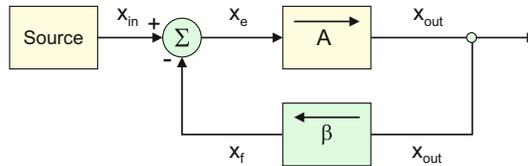
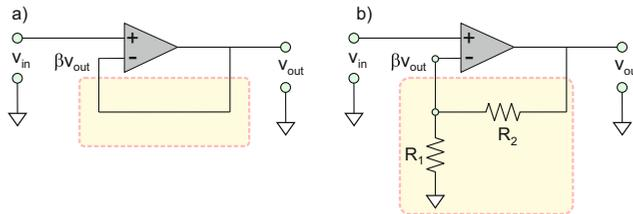

Fig. 5.36. A negative feedback loop for an arbitrary system (signal-flow diagram).
Fig. 5.37. Two amplifier circuits with negative feedback networks indicated by a shaded rectangle.
Although the negative feedback was first quantified by electrical engineers, it is extensively observed, studied, and employed in many mechanical, biomedical, chemical, and other systems. Figure 5.36 shows a generic structure of a *linear feedback system*.
Figure 5.36 is a simplified *signal-flow diagram* or *controls block diagram*. The variable  $x$  is a *signal*; it may be voltage, current (electrical engineering) or displacement, velocity (mechanical engineering), etc. These three blocks have special names in control theory:
Clearly, the feedback loop reduces the initial gain substantially. And yet, despite this drawback, the closed-loop gain  $A_{\text{CL}}$  may still be large enough and sufficient for amplification as long as  $A$  is made very large. Thus, the feedback loop in Fig. 5.36 is a simple and powerful means to control the operation of an arbitrary high-gain system.
**Exercise 5.9:** The open-loop gain  $A$  in Fig. 5.36 varies between two extreme values of  $A = 1000 \pm 200$  ( $\pm 20\%$  gain variation) depending on the system parameters. The forward gain block is used in the closed-loop configuration with the feedback factor  $\beta$  of 0.1. Approximate the two extreme values of the closed-loop gain,  $A_{\text{CL}}$ .
The second question of interest is finding the *error signal*,  $x_e$ , in Fig. 5.36, which corresponds to the differential input voltage for an amplifier circuit with the negative feedback. Substitution of Eq. (5.62) into Eq. (5.60) yields
**Exercise 5.10:** The open-loop gain  $A$  in Fig. 5.36 is 10,000. The forward gain block is used in the closed-loop configuration with the feedback factor  $\beta$  of 0.1. Determine the error signal  $x_e$  if the input voltage signal is 1 mV.
Two circuits shown in Fig. 5.37 are the buffer amplifier circuit and the non-inverting amplifier circuit, respectively. The goal is to find the closed-loop gain  $A_{CL}$  of the amplifier circuit when the given open-circuit voltage gain  $A$  is large but finite. In this case, the second summing-point constraint cannot be applied. Therefore, simple Eqs. (5.16) and (5.21) obtained previously need to be modified.
Both circuits from Fig. 5.37 have the form of the feedback system as in Fig. 5.36. The feedback network is indicated by a shaded rectangle. The signal  $x$  is now the voltage. Since  $A$  is given, the only problem is to find the feedback factor,  $\beta$ . For the buffer amplifier, the feedback factor is clearly one. For the non-inverting amplifier circuit, the feedback loop is the voltage divider, where  $\beta$  is determined by the resistance ratio. Note that the voltage divider model implies no current into amplifier's input terminals. Specifically,  $\beta v_{out}$  is equal to  $R_1 / (R_1 + R_2) v_{out}$ . Therefore,
At the end of this short section, we consider four basic amplifier circuits with negative feedback, which correspond to the four basic dependent sources studied in Chapter 2: *voltage amplifier*, *transconductance amplifier*, *transresistance amplifier*, and *current amplifier*. Figure 5.38 shows the corresponding circuit diagrams. Load resistance  $R_L$  is introduced for the transconductance amplifier and the current amplifier, respectively, where the output is the load current. Although every amplifier circuit may be represented in the form similar to the feedback diagram in Fig. 5.36 and analyzed accordingly, only a simplified treatment will be given here. It utilizes the condition  $A \rightarrow \infty$  and the resulting second summing-point constraint. Using the both summing-point constraints, we may obtain, with reference to Fig. 5.38,